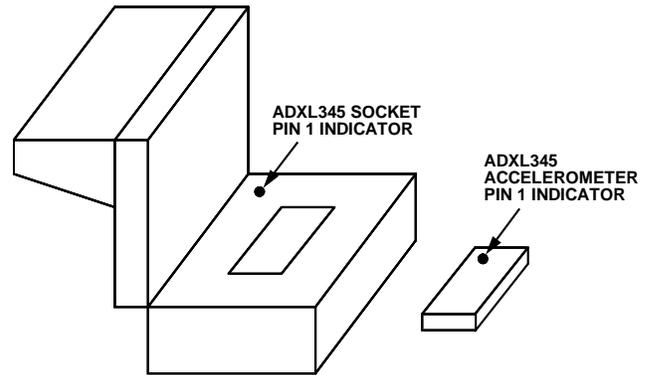

Figure 15. Location of Pin 1 Indicators for the ADXL345 Accelerometer and Socket
2. Place the ADXL345 accelerometer into the socket on the satellite board. The Socket Pin 1 Indicator is located inside the socket close to the hinge, as shown in Figure 15. This pin